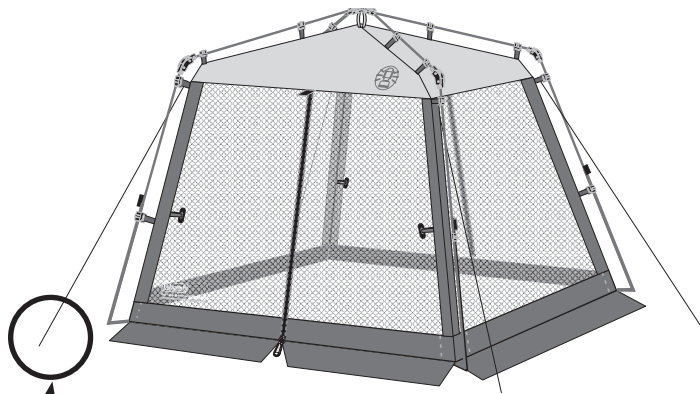
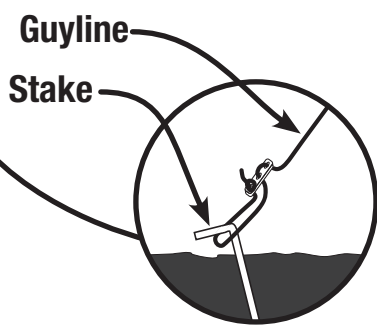

Fig. 7
Fig. 8
- Attach and stake out guylines. (Fig. 7 and Fig. 8)
- Remove guylines and stakes. (Fig. 7 and Fig. 8)